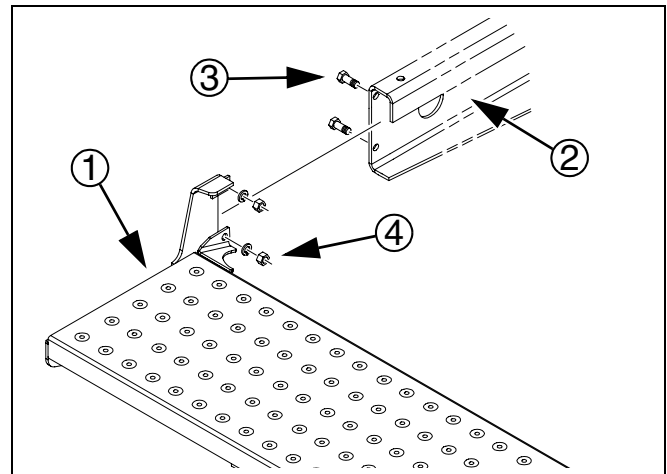

Figure 5
*Refer to Figure 5*
1. Select four sets of  $\frac{1}{2} \times 1\frac{1}{4}$  inch bolts ③, lock washers and hex nuts ④.
2. Bolt center walkboard ① to box support channels ②.